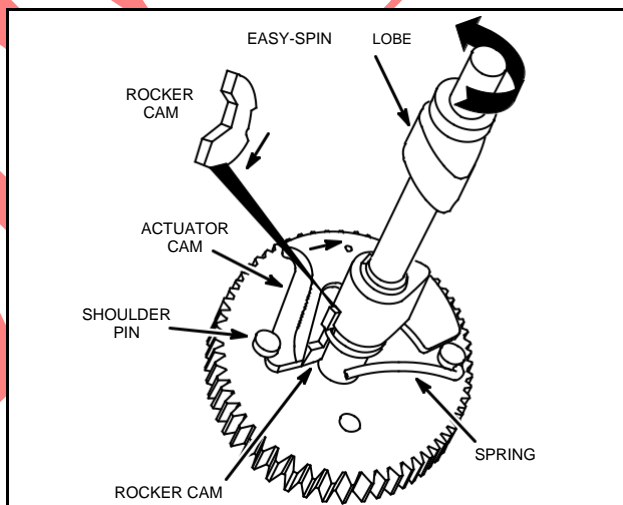

Fig. 878 – RUNNING POSITION
1. To check, move cam to the running position, Fig. 878.